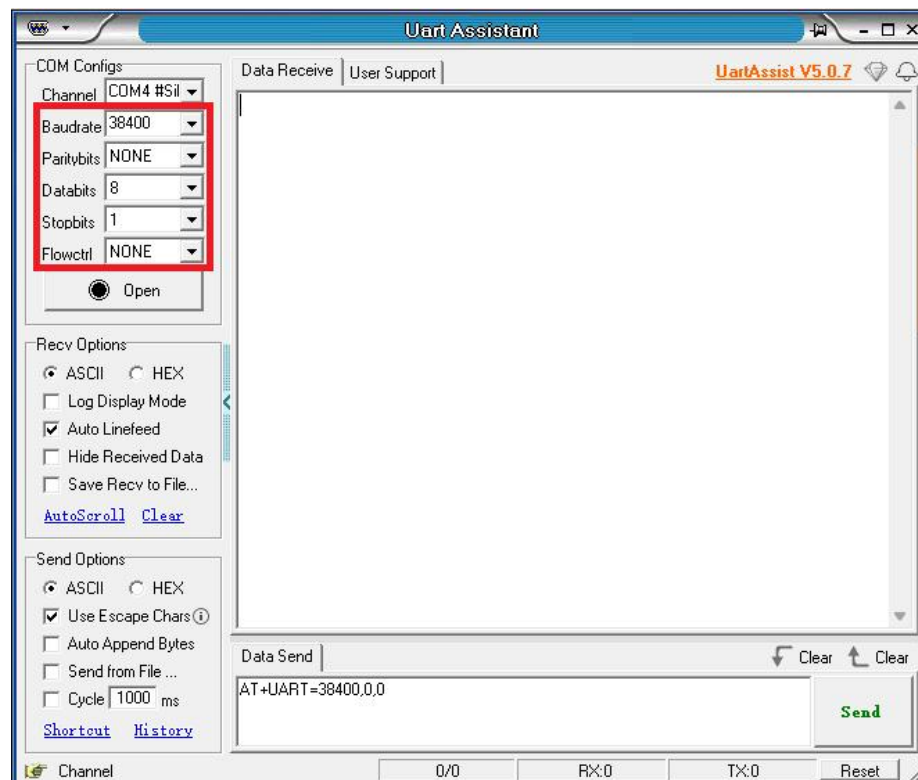

Fig.14
2.4 Select baud rate: 38400, others N, 8,1 (Fig. 14)
2.6 Open the port and send AT commands according to Table 1, as shown in Fig. 14